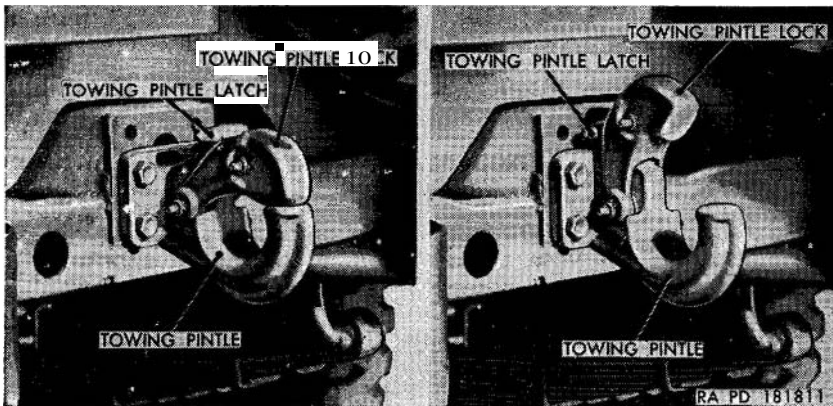

Figure 17. Towing pintle operating positions.
a. *General.* The vehicle is equipped with two front and two rear lifting shackles and a towing pintle (fig. 17). The pintle is located at the rear of the vehicle and is the prime means of attaching a trailer, towing cable, or towing bar. To open pintle, pull the towing pintle latch to the rear, and, at the same time, pull up on the towing pintle lock. To close pintle, push down on lock.
- (1) Connect the to-be-towed and towing vehicles by a suitable cable, chain, rope, or towing bar of sufficient length to permit maneuverability of both vehicles.
- (2) Place the transfer high and low range gearshift lever of towed vehicle in HIGH gear range position. Place the transfer front wheel drive gearshift lever in the OUT position.
- (3) Depress the clutch pedal and place the transmission gearshift lever in third (HIGH) gear.
- (4) Turn ignition switch to ON position. Pull out choke control if engine is cold. Release the hand brake handle.
- (5) Move towing vehicle slowly until all slack is taken up in towing line between towed and towing vehicle ; then tow vehicle.
- (6) After towed vehicle is under way, release clutch pedal slowly and depress accelerator pedal slightly. As engine starts,